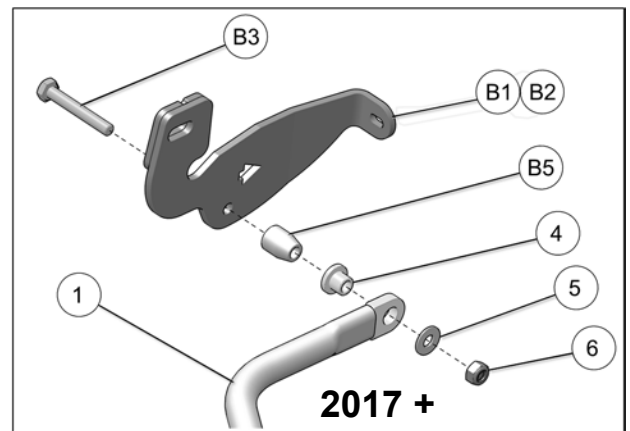

Fig. 12
2017 & later vehicle model years: use the M10x70mm bolt (B3), long bushing (B5), flange bushing (4), washer (5) and nut (6). Torque to 50 N•m [37 lb•ft]. See Fig. 12